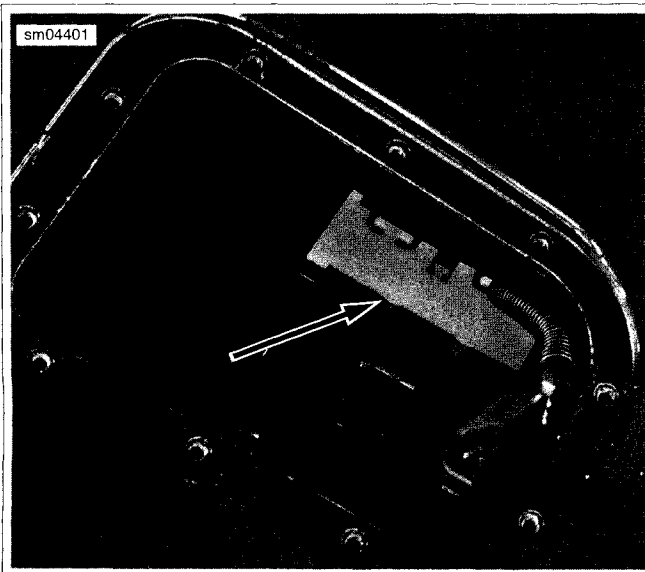

Figure 4-42. Fuel Sending Unit Removal
13. See Figure 4-42. Pull out and up on fuel sending unit and remove from fuel tank.
1. See Figure 4-42. Slide fuel sending unit down into welded bracket on right side of fuel tank until it snaps into position.